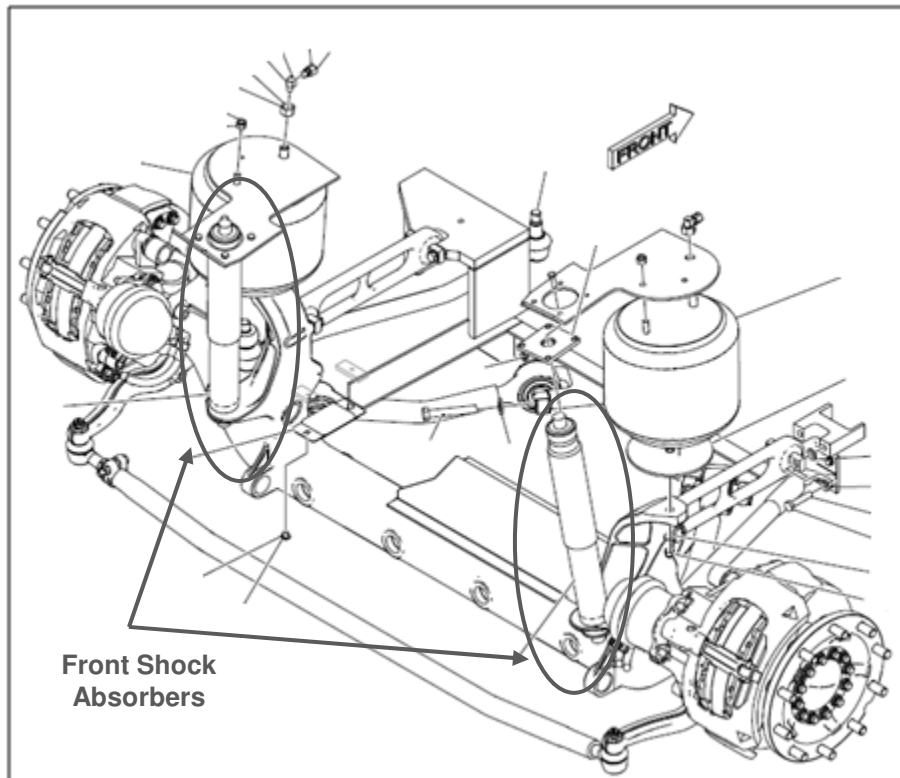

Figure 1: Front shock absorbers
3. Locate the front shock absorbers as shown in Figure 1.